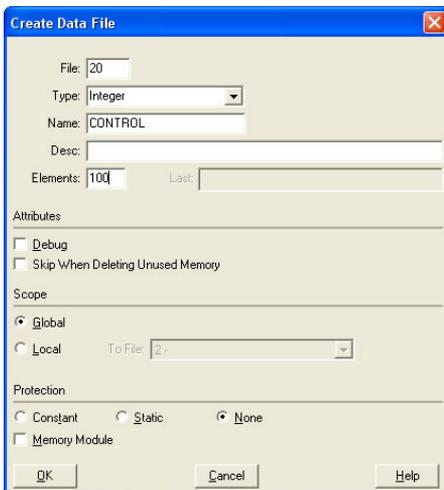

Figure 112: Creating a Control File
a) Right click Data Files and select New... The "Create Data File" dialog box appears (refer to Figure 112).